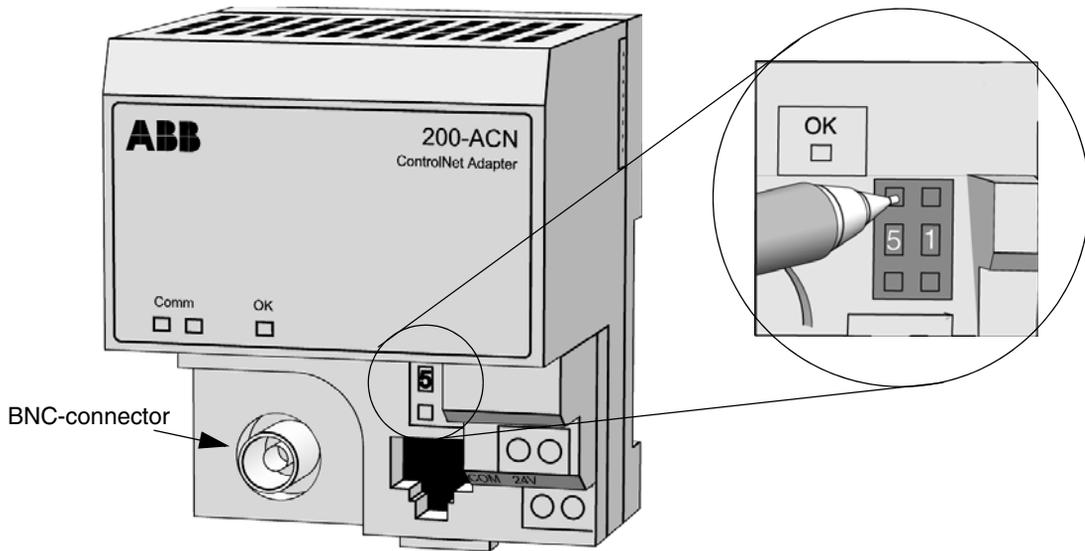

Figure 92. The push button switches on the 200-ACN to change its node address.
- Series 200 I/O - at the front of the 200-ACN unit, see Figure 92.
- Series 200 I/O - by clicking the push button switches on the front of the 200-ACN unit, see Figure 92. A node address in the range 02-99 should be selected for the 200-ACNs.